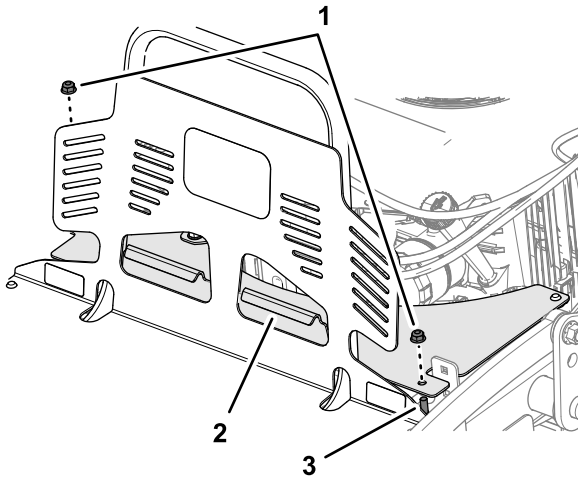

Figure 33
1. Remove the 2 flange locknuts that secure the guard extension to the 2 carriage screws of the guard-mounting brackets (Figure 33).